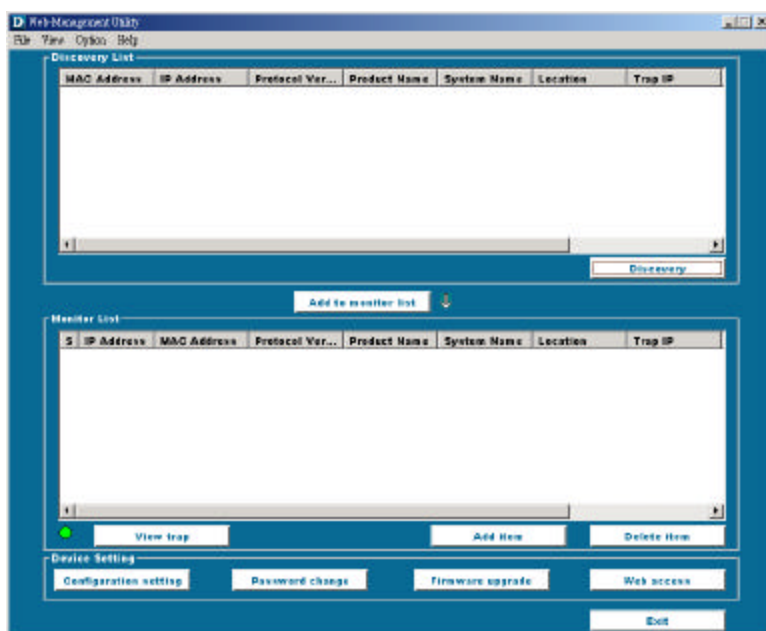

Figure 7. Web Management Utility
5. Upon completion, go to **Program Files -> web_management_utility** and execute the Web Management utility. (Figure 7.)